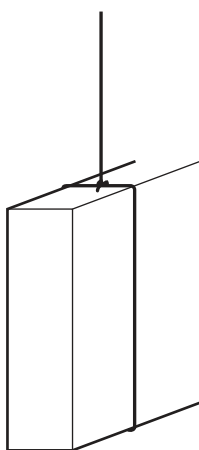

Fig. 1.1
2. The threads must be tied securely to the metre rule so that the metre rule hangs with its scale vertical and facing the candidate as shown in Fig. 1.1.